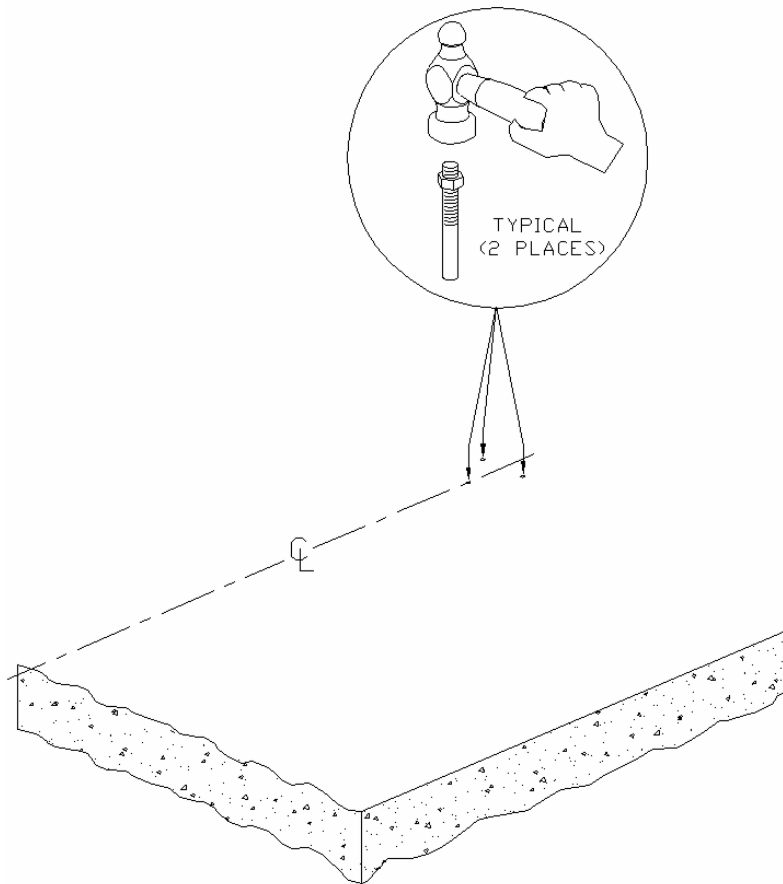
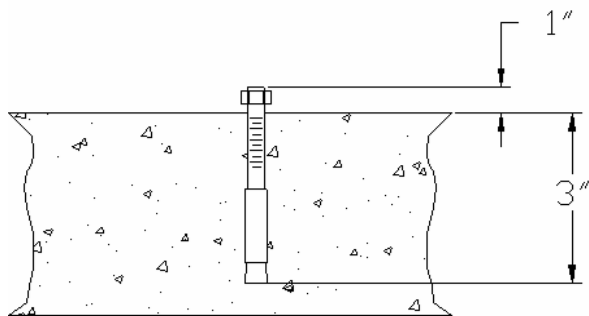
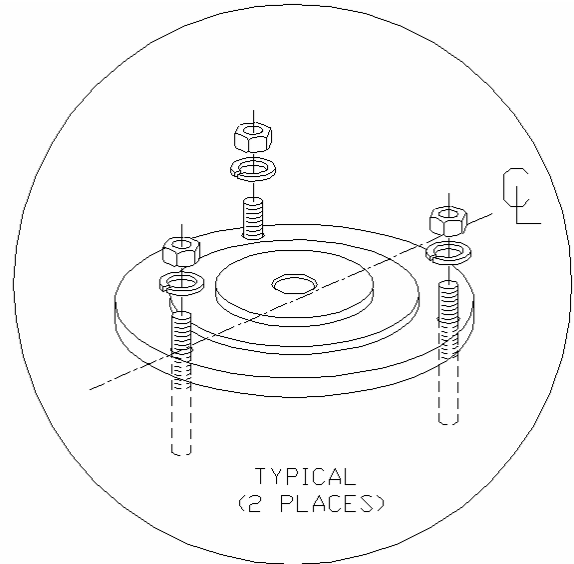

Figure 7
Figure 8
Figure 9
1. Locate anchor stud holes for bottom plates and drive in stud bolts 3/8" – 16 X 4" min. See Figure 7. One inch of anchor stud should remain above floor surface (this allows for thickness of mount plus 1/2 inch of make-up for washer and nut). See Figure 8. Place the bottom plates over studs and secure with lock washers, and nuts. See Figure 9.